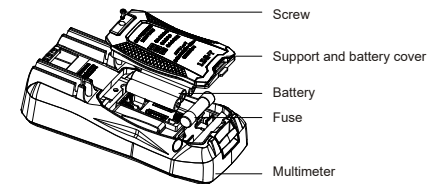

Figure 11
2. Replace battery or fuse (Figure 11)